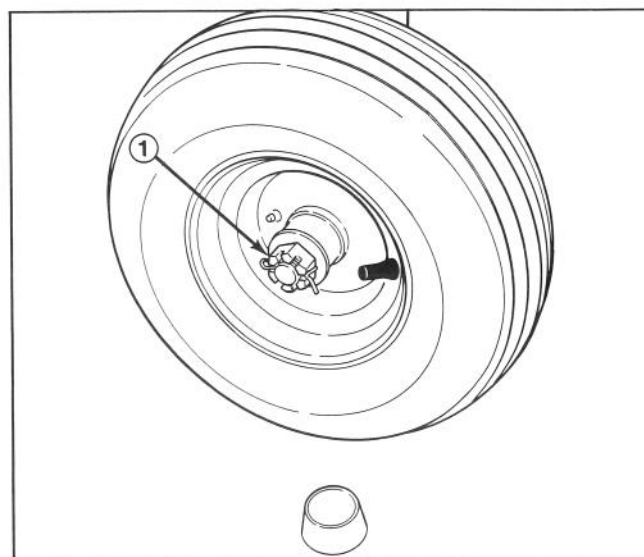

Figure 3
1. Slide (1) thrust washer and wheel onto one side of front axle. Position wheel so grease fitting and valve stem are outward.
2. Secure wheel to axle with (1) flatwasher, slotted hex nut and cotter pin (Fig. 3).